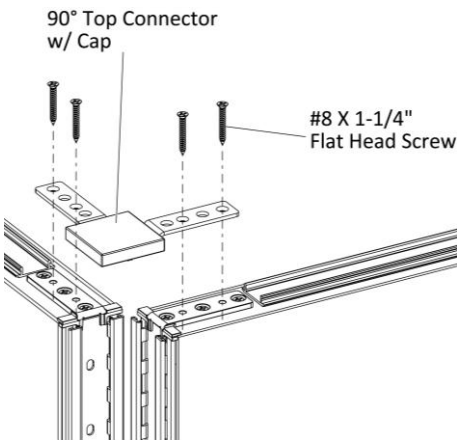

Figure 2
- 4. Drive four #8 X 1-1/4" Flat Head Screws through the holes in the 90-degree top connector into the panels, (Figure 2).